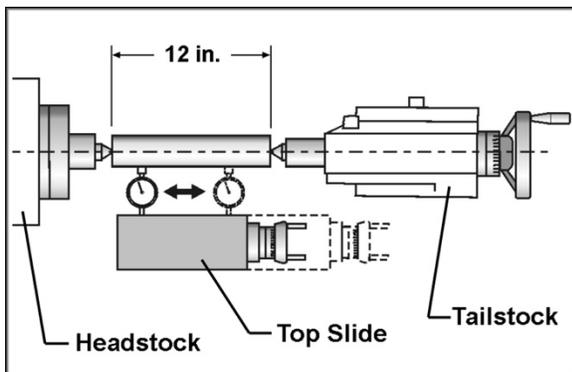

Figure 14-7: Tailstock/Headstock Alignment
- Fit a 12" ground steel bar between centers of the headstock and tailstock (Figure 14-7).